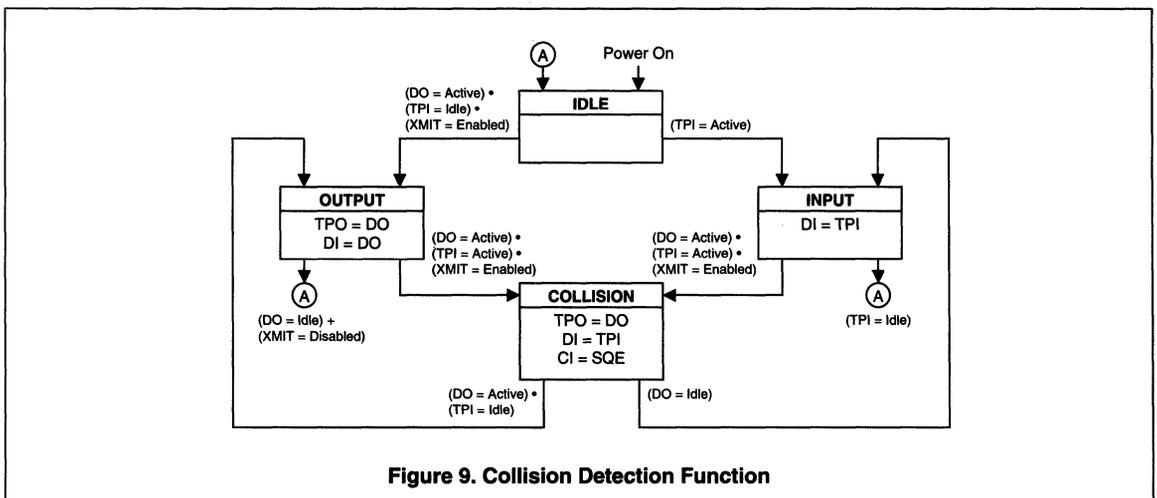

Figure 9. Collision Detection Function
as the simultaneous presence of valid signals on both the TPI circuit and the TPO circuit. The MB86961(A) reports collisions to the back-end via the COL pin. If the TPI circuit becomes active while there is activity on the TPO circuit, the TPI data is passed to the back-end over the RXD circuit, disabling normal loopback. Figure 9 is a state diagram of the MB86961(A) collision detection function. Refer to Electrical Characteristics for collision detection and COL/CI output timing.